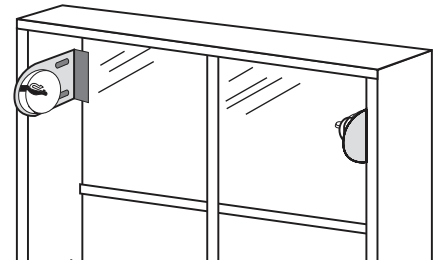

Fig. 1
a. Mark holes $\frac{1}{2}$ in. less than overall (bracket to bracket) measurement at each end. (fig. 1)